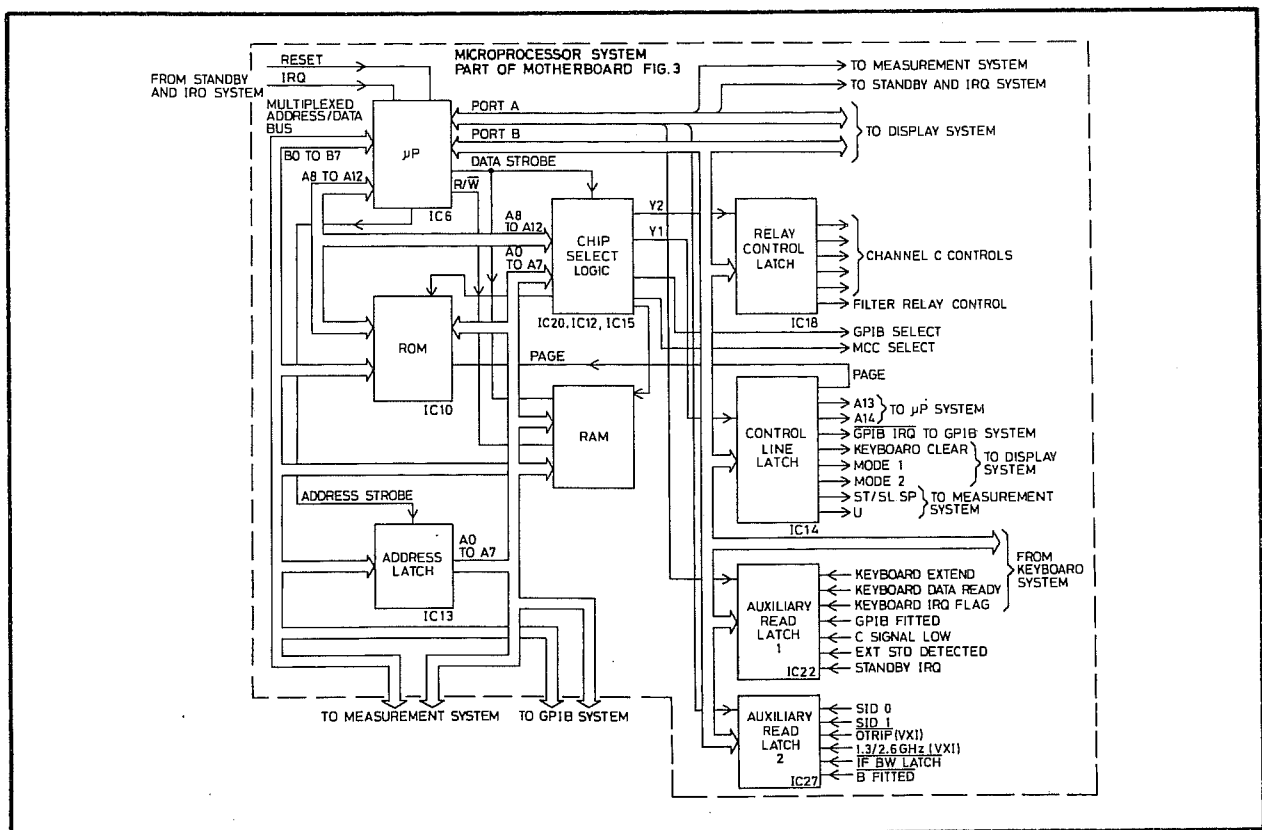

Fig. 6.13 The Microprocessor System
- 121 A block diagram of the system is shown in Fig. 6.13. The microprocessor used has a 5-bit bus for the high-order address bits and an 8-bit multiplexed bus which is used for the low-order address bits and for data. The low-order address bits are strobed into the address latch, which holds them on an 8-bit address bus, to free the multiplexed bus for data.